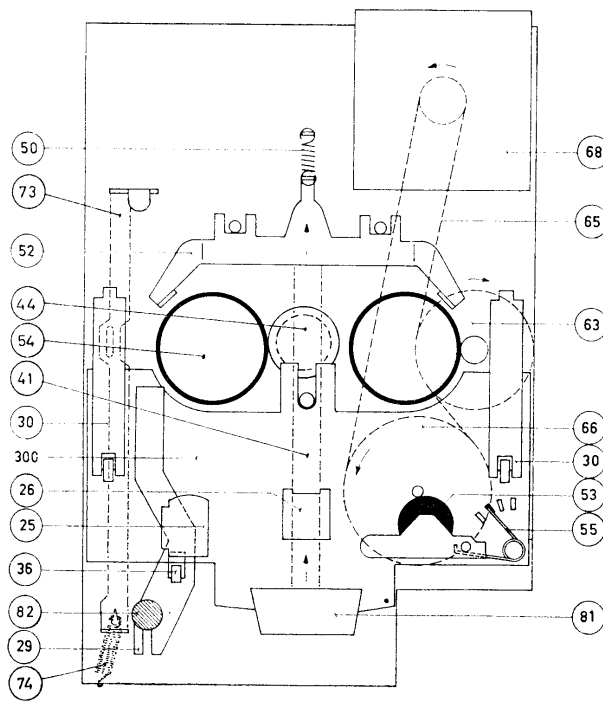

Fig. 4
When refitting panel, ensure that the end of switch lever 36 engages with the slider of switch S4 (see Fig. 4).
1. Playback (see Fig. 4)
2. Record (see Fig. 4)